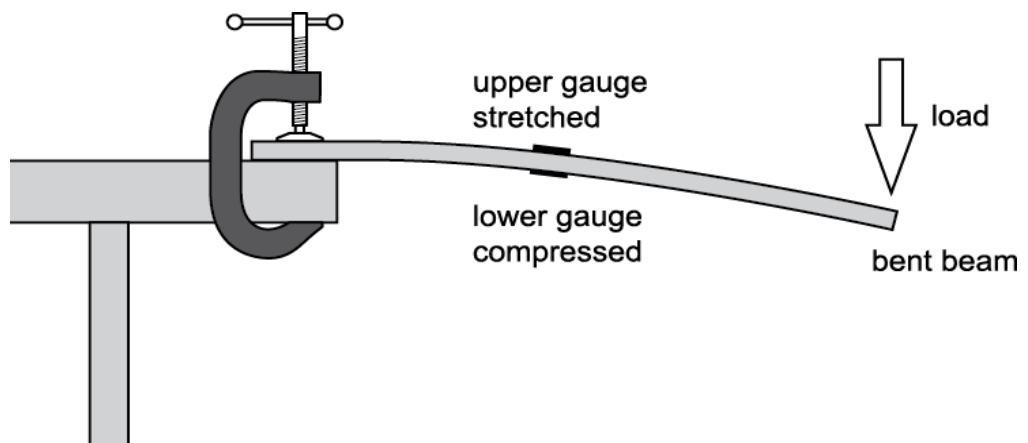

Fig. 38.5
- (iii) In the case of a bending beam the upper surface is stretched and the lower surface is compressed as shown in Fig. 38.5.